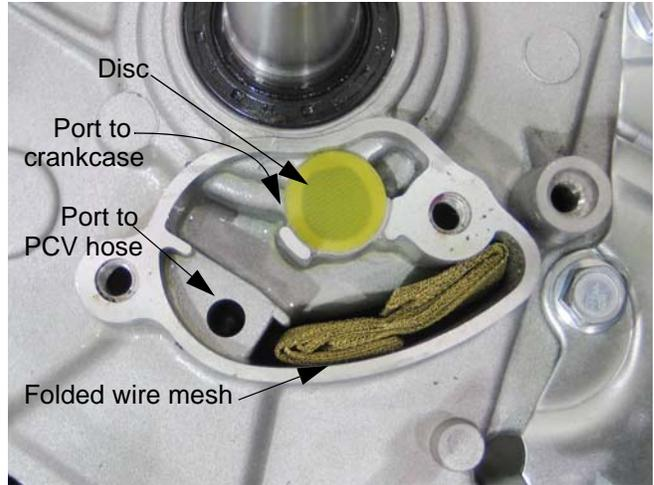

Figure 5.12
5. Inspect the folded wire mesh in the chamber. See Figure 5.12.